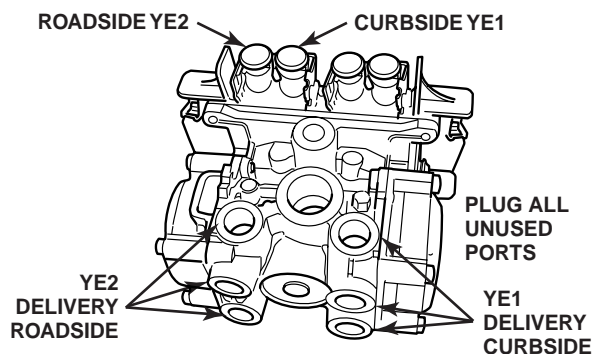

Figure 2-31: Valve Mounted with Sensors Facing Rear of Trailer
- If the ECU/dual modulator valve assembly is mounted with the sensors facing the **rear** of the trailer, the air lines for the three delivery ports located under the YE sensor connectors must be routed to **roadside**; the air lines for the three delivery ports on the opposite side of the valve must be routed to **curbside**. See Figure 2-31.